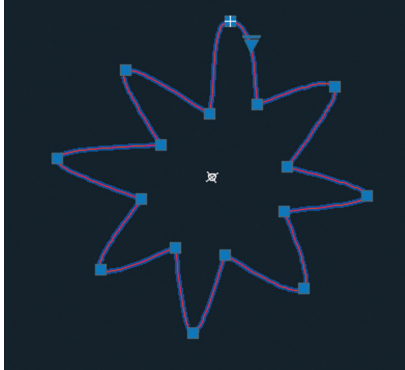

FIGURE 5.19 Abstract tree created by stretching kinks in a fit-point spline
9. Click each kink grip, and move it in toward the center to create an abstract representation of a tree (see Figure 5.19).